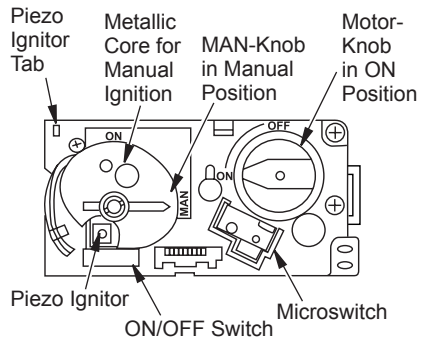

Figure 18 - Control Valve
4. Wait (5) minutes to clear any gas and then smell for gas around heater and near floor. If you smell gas, **STOP!** follow "B" on page 15. If you do not smell gas, go to the next step.
6. **MAN**-knob (valve) in **MAN** position, a metallic core is visible. (see Figure 18).
1. Disconnect ignitor cable from receiver and connect to Piezo Ignitor Tab (see Figure 18, page 17 and *Wiring Diagram* on page 24).
5. Wait (5) minutes to clear any gas and then smell for gas around heater and near floor. If you smell gas, STOP! follow "B" on page 14.
7. MAN-knob on valve is in MAN position (see Figure 18, page 17), When in MAN position you can see a metallic core.